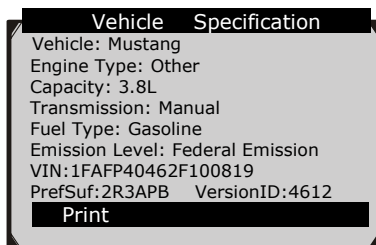

Figure 4.2
- 4) Review selected data on screen. (Figure 4.2)